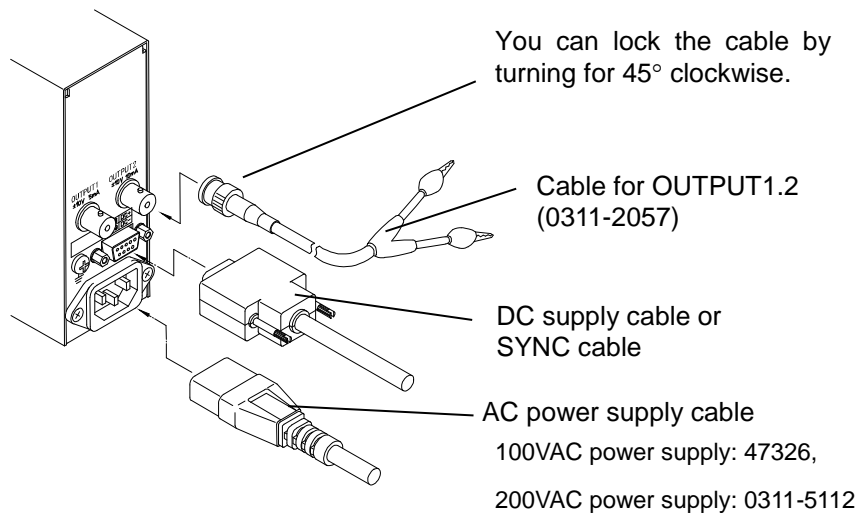

Fig. 3-2 Connection of power supply code and output cable
3.1.2 Power Supply Cable and Output Cable Connections (See Fig. 3-2)